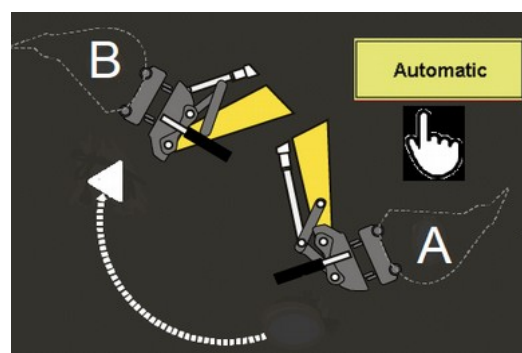

Fig. 35 Turn bucket A to B
- During the calibration, correction data is gathered from several bucket positions. Note, the bucket have to be moved through its whole movement area as illustrated in the Fig. 35.